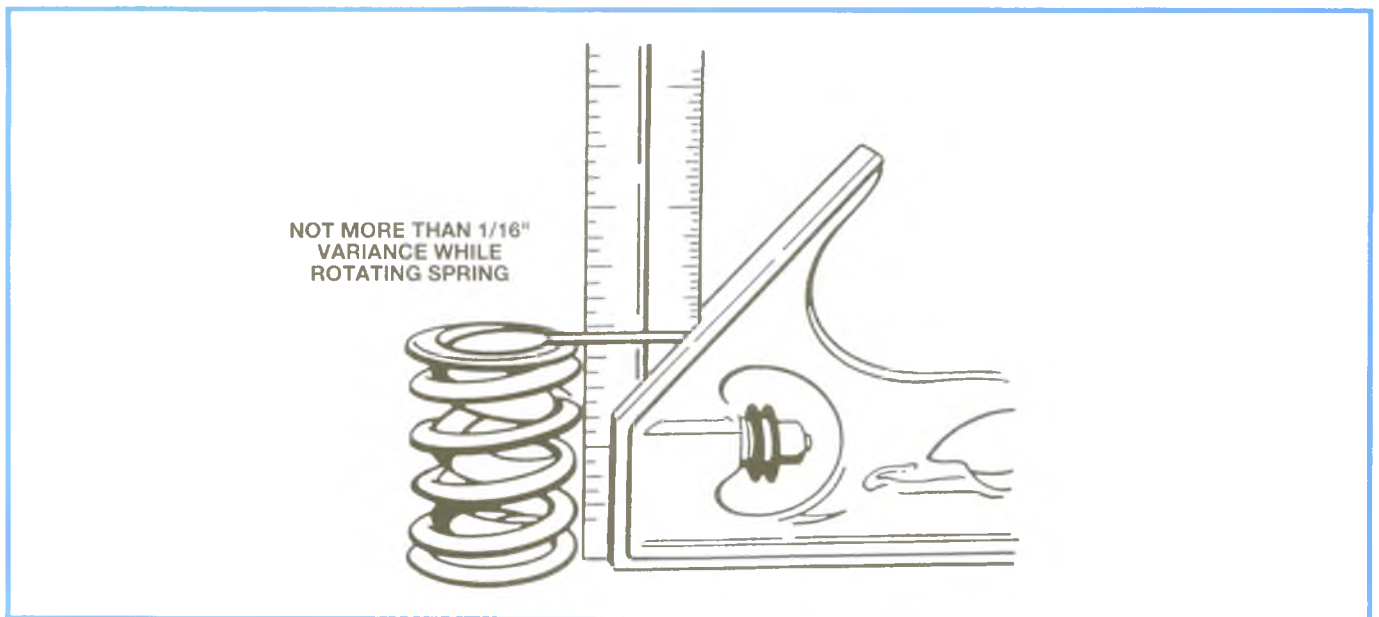

Figure 2-29, Valve Spring Squareness Check
- D. Check and replace suspect valve spring(s) - refer to Figure 2-29.